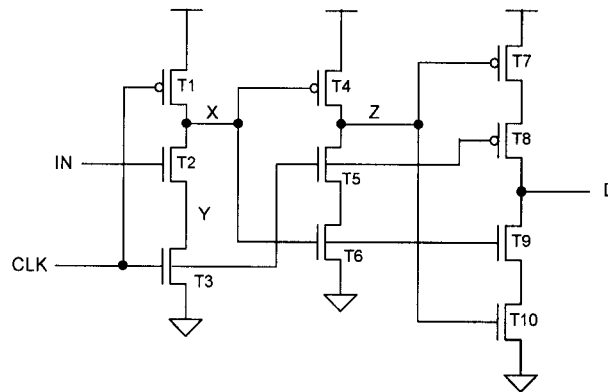
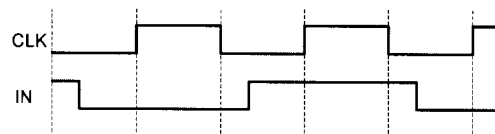

Figure 5.1
Figure 5.2
5. a) Figure 5.1 shows the transistor-level schematic diagram of a latch circuit. Given that the timing diagram for the input signals CLK and IN is as shown in Figure 5.2, draw the timing diagram for the signals at X, Y, Z and D. Label your timing diagram indicating the various states of the signal nodes as: